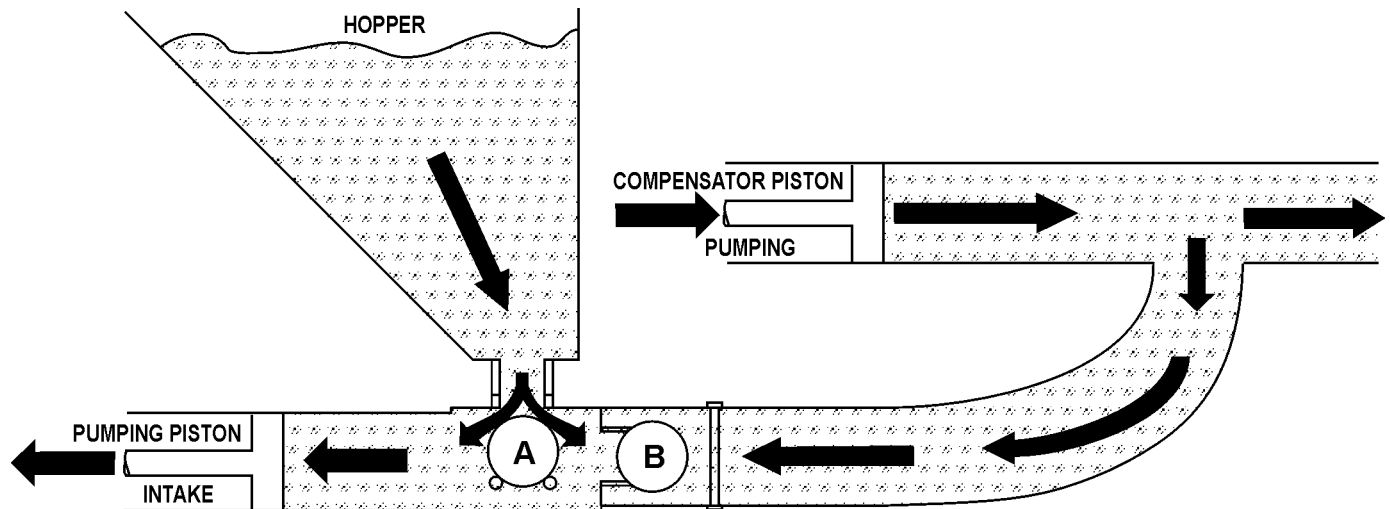

Figure 2. Pumping Cylinder
The pumping cylinder (Figure 2) retracts drawing the material past the ball (A) and filling the cylinder. The compensator piston is pumping the material out to the nozzle and causing ball (B) to seat preventing the material from returning to the pumping cylinder intake.